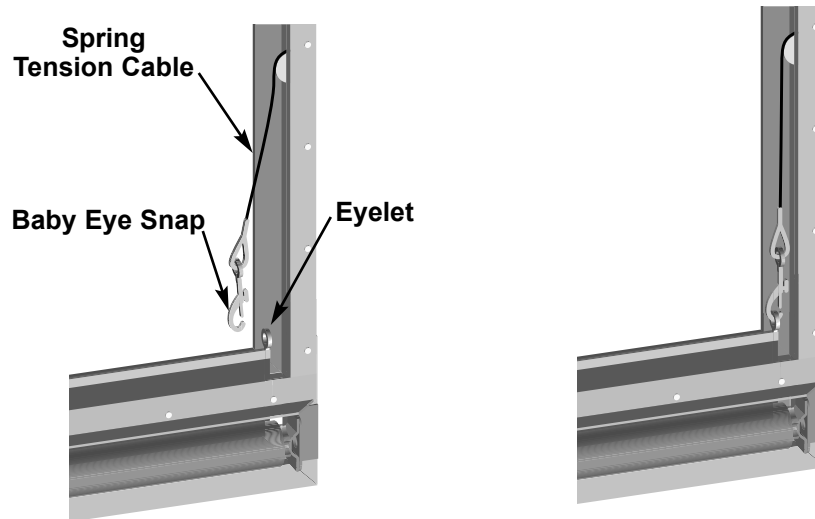

Figure 8: Connecting the spring tension cable
2. Connect the baby eye snap to the eyelet on the lower bottom of the unit. See Figure 8. You will need to pull the cable slightly (about 10 lbs. / 4.5 kg of tension).